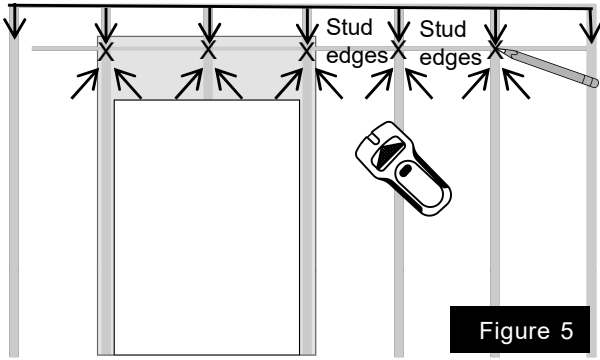

Figure 5
- Mark the **intersection** of the horizontal line and the each stud center with "**X**" as Figure 5.